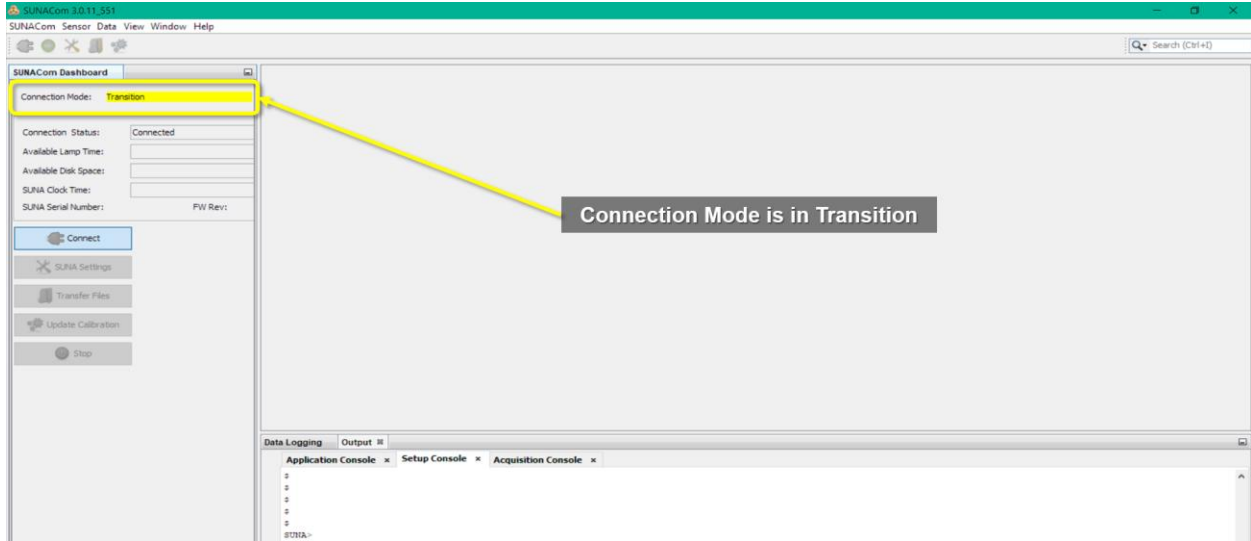

Figure 52. Connection to SUNA is in Transition
- The **Connection Mode** under the **SUNACom Dashboard** tab in the upper left hand corner of the window changes to yellow and the **“Setup Console”** tab starts displaying characters (see Figure 52).